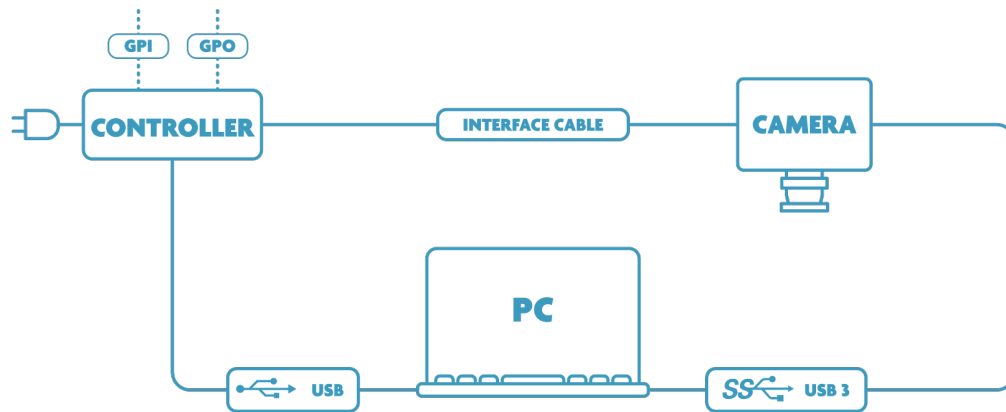

Figure 61: Connection diagram showing the connections between all components of the snapscan system.
- Ensure that the system is connected, as shown in Figure 61.